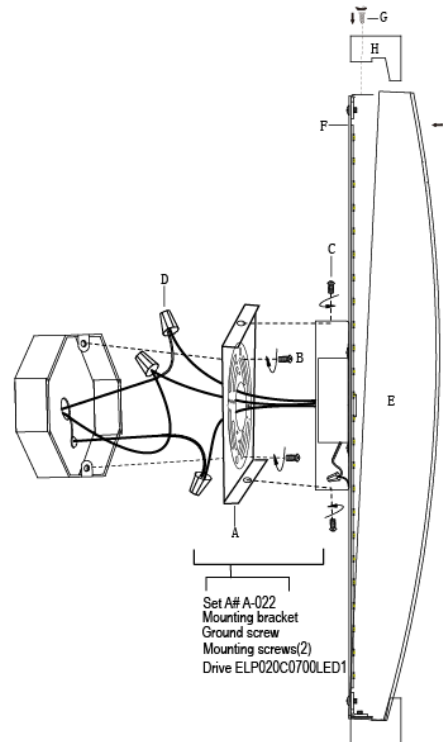

Fig. 1
## CONNECTING THE WIRES (Fig. 1)
4. Connect the electrical wires as shown in Fig. 1, making sure that all wire connectors (D) are secured. If your outlet has a ground wire (green or bare copper), connect the fixture's ground wire to it. Otherwise, connect the fixture's ground wire directly to the mounting bracket using the green screw provided.
**Note:** Illustration (Fig.1) on this manual is for installation purposes only. It may or may not be identical to the fixture purchased.
**CAUTION /ATTENTION :** When handling the fixture, do not apply pressure to the LEDs. Hold the fixture by the base or fixture body (J) only.